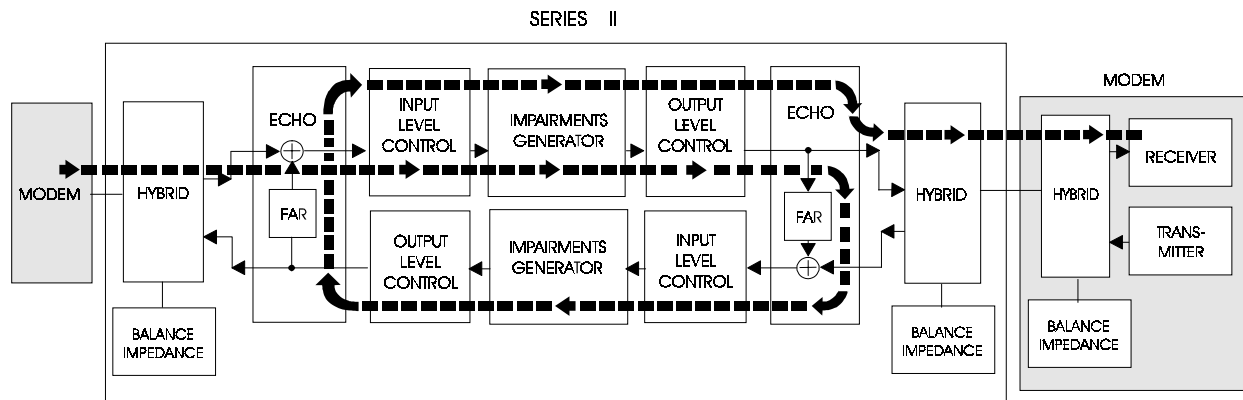
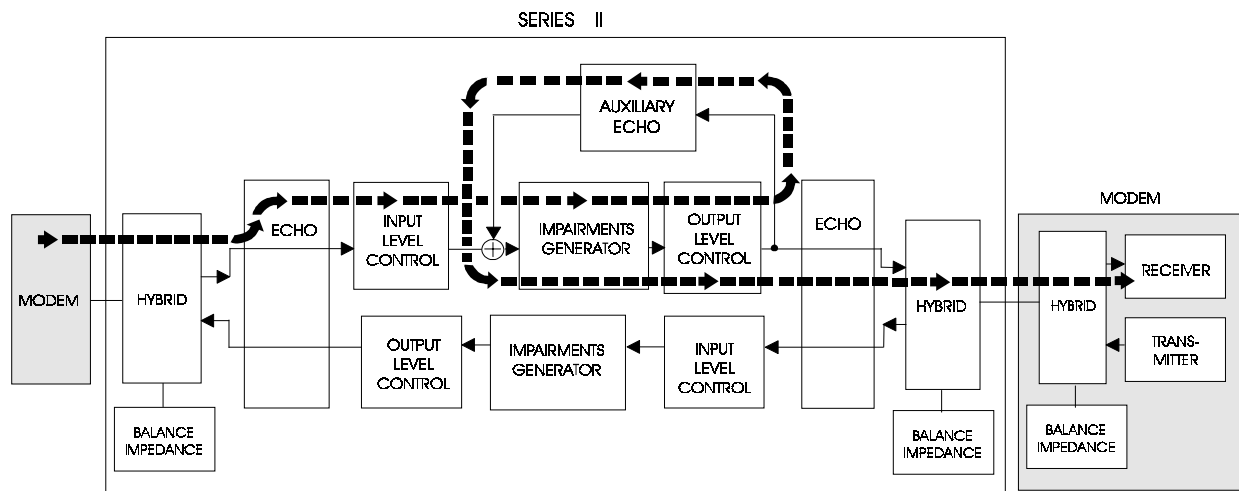

Figure 2-34. EIA/CCITT Listener Echo
Figure 2-35. ETSI Listener Echo
The Series II provides listener echo simulation for station A and station B. Station B (A) listener echo is the reflection of the modem B (A) receive signal. The Series II provides two simulation techniques for listener echo. In the first technique illustrated in Figure 2-34, the level of echo is controlled by the combination of the station A far echo attenuation and the station B far echo attenuation. The time delay of listener echo is determined by the satellite delay in the A→B and B→A directions. In the second technique illustrated in Figure 2-35, the level of echo is controlled by the auxiliary echo attenuation and its delay by the auxiliary echo delay along with the B→A (A→B) satellite delay.